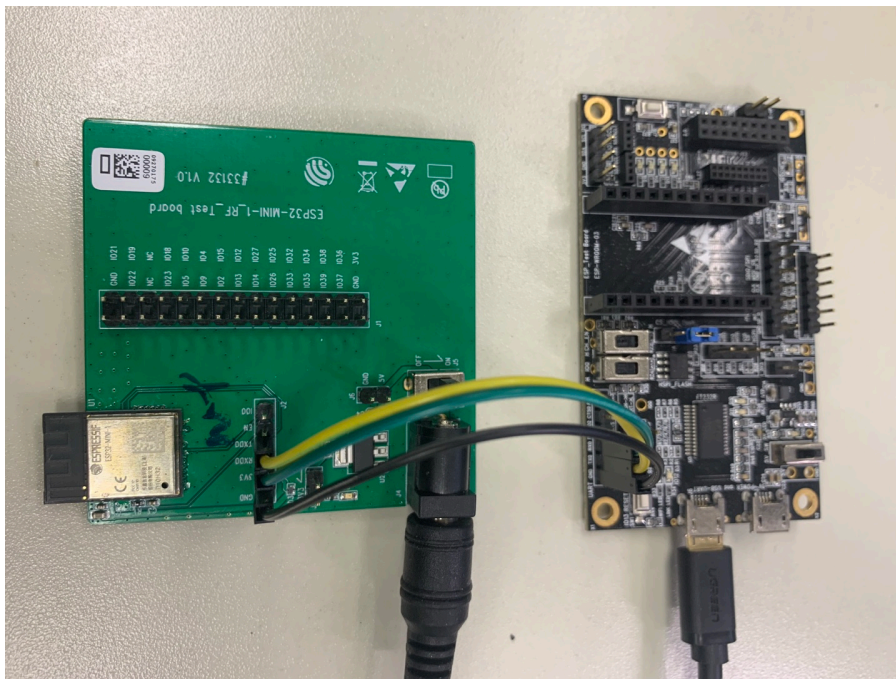

Figure 2: Hardware Connection
1. Solder the ESP32-S3-WROOM-2 module to the RF testing board as shown in Figure 2.